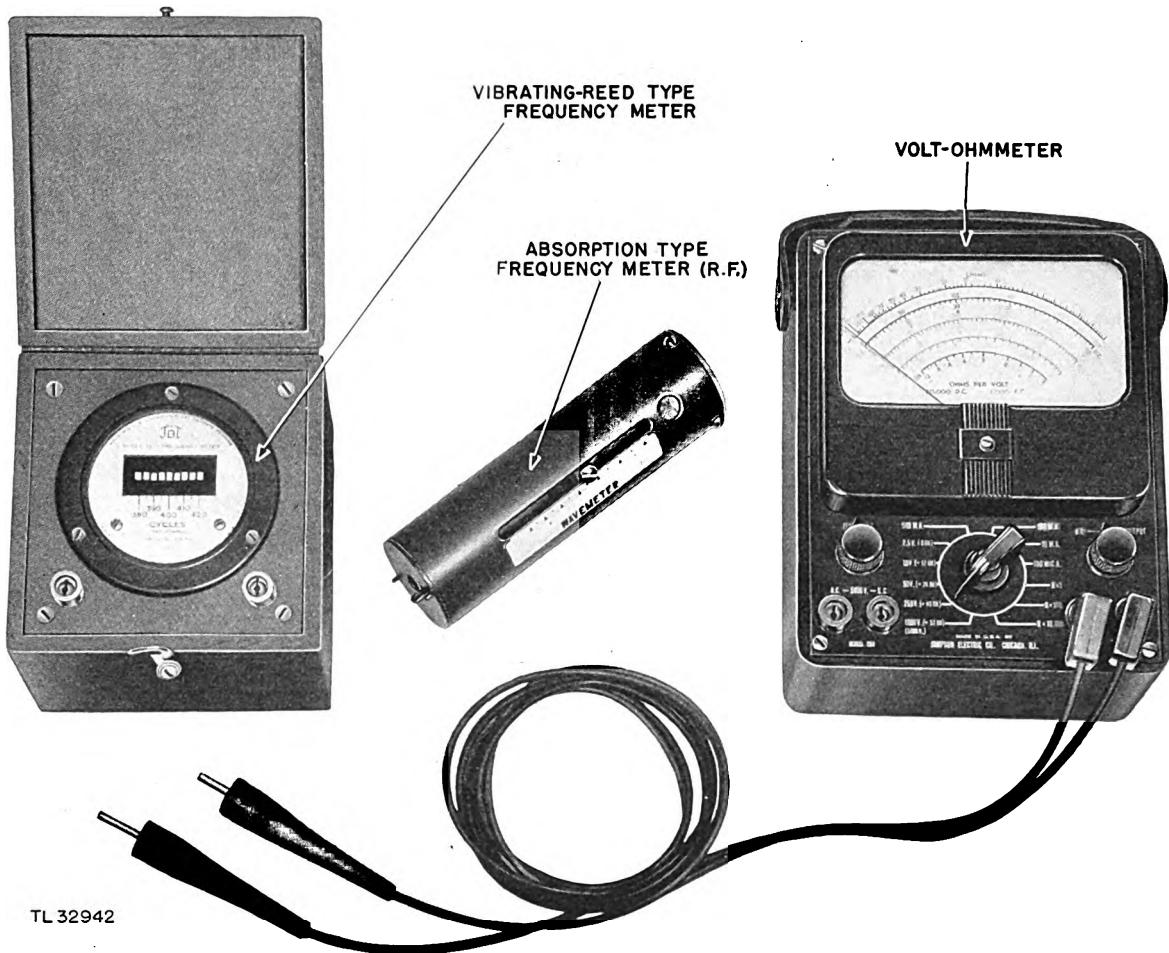

Figure 27. Test equipment.
- (1) Soldering iron and solder.
- (2) Tape, friction.
c. Location. See figure 27.
- (a) The test instrument leads (fig. 27) for:
- (b) The test instruments (fig. 27) for: